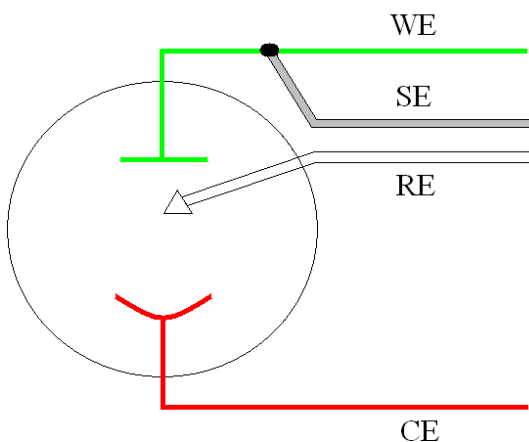

Figure 7. Three-Electrode Connection
b) General aqueous electrochemistry, corrosion experiments and most EIS experiments are connected using a three-terminal connection (Figure 7). The voltage at the working-sense is controlled relative to a stable reference electrode positioned in close proximity to the working electrode.